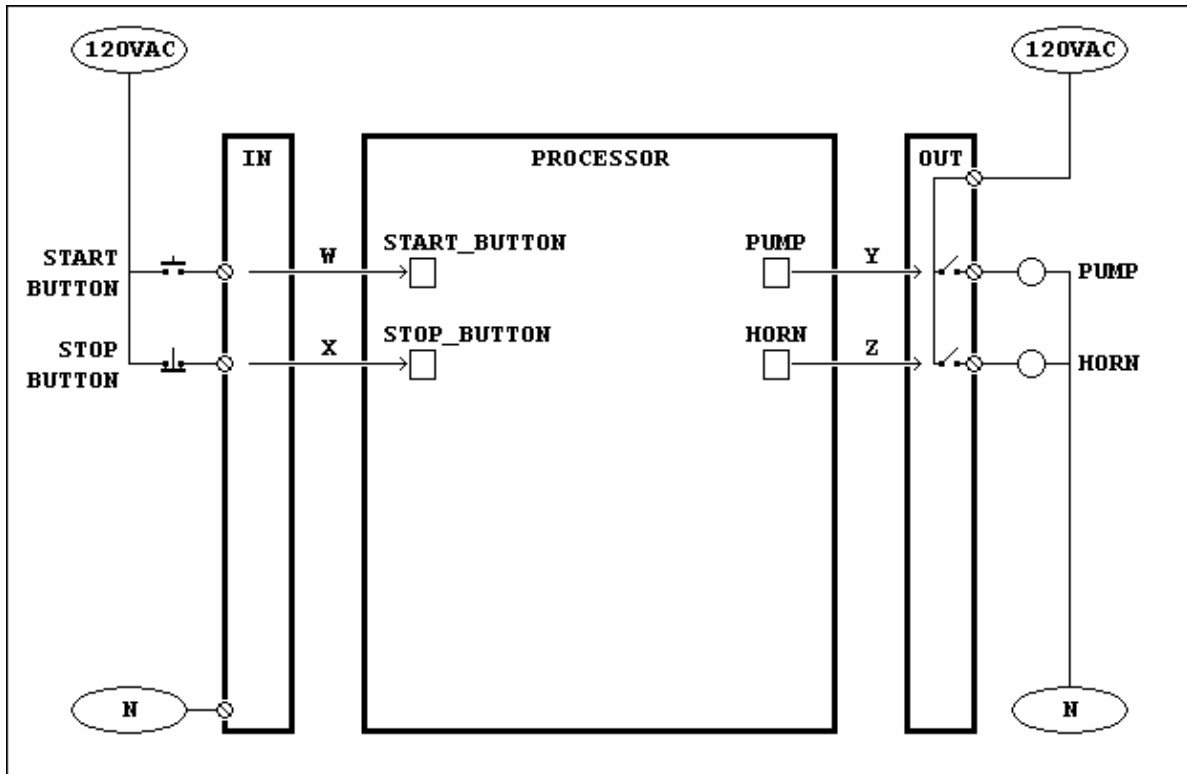

Figure 1 - Wiring for Beginner Level Quiz #115
Figure 1 shows the wiring for a simple control system with two field output devices: a PUMP and a HORN. There are also two field input devices. The momentary START\_BUTTON is wired for normally-open operation. The momentary STOP\_BUTTON is wired for normally-closed operation. All of the wiring and field devices are in good condition. Specifically, there are no burned-out coils, broken wires, bad switches, etc.
**Question 1** - Begin with the conditions shown in Figures 1, 2 and 3. Suppose that we right-click and perform a "Toggle Bit" operation at **Position A**. Notice that Position A is the **Pump's** bit on the Output Data Table. Will the **Horn** sound continuously?
**Question 2** - Begin with the conditions shown in Figures 1, 2 and 3. Suppose that we right-click and perform a "Toggle Bit" operation at **Position B**. Notice that Position B is an OTE to control the **Pump**. Will the **Horn** sound continuously?
**Question 3** - Begin with the conditions shown in Figures 1, 2 and 3. Suppose that we right-click and perform a "Toggle Bit" operation at **Position C**. Notice that Position C is an XIC used in a "seal in" branch to control the **Pump**. Will the **Horn** sound continuously?
**Question 4** - Begin with the conditions shown in Figures 1, 2 and 3. Suppose that we right-click and perform a "Toggle Bit" operation at **Position D**. Notice that Position D is an XIC for the **Pump** - but it is NOT located in the Pump's "seal in" control rung. Specifically, Position D is located in a rung completely separate from the control of the Pump. Will the **Horn** sound continuously?
Begin with the conditions shown in Figures 1, 2 and 3. Suppose that we right-click and perform a "Toggle Bit" operation at **Position E**. Notice that Position E is an "unused" OTE for the **Pump**. Specifically, this instruction is not even being scanned by the processor. Will the **Horn** sound continuously?
**Question 6** - Begin with the conditions shown in Figures 1, 2 and 3. Suppose that we right-click and perform a "Toggle Bit" operation at **Position F**. Notice that Position F is an OTE for the **Horn**. Will the **Horn** sound continuously?
**Question 7** - Begin with the conditions shown in Figures 1, 2 and 3. Suppose that we right-click and perform a "Toggle Bit" operation at **Position G**. Notice that G is the **Horn's** bit on the Output Data Table. Will the **Horn** sound continuously?